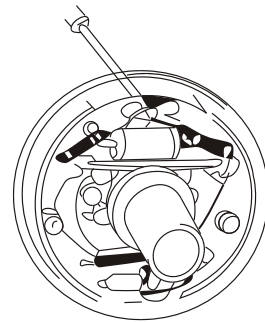

Fig.5-8
(2) Remove the shoe return spring. (See Fig.5-8)